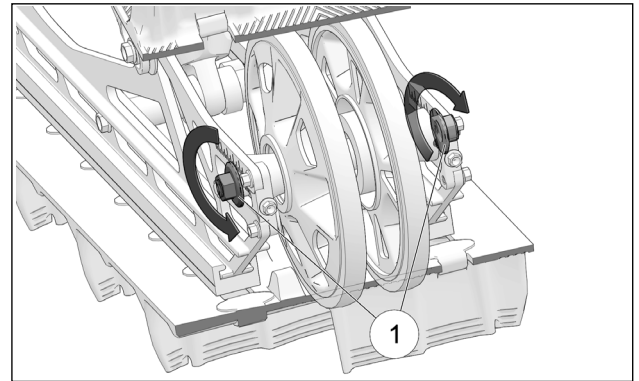

Figure 42
CAUTION: The two rear wheel assembly axle nuts (1) must be loosened before adjusting Track tension. See Figure 42.
- Tighten the two rear wheel axle nuts (1) back to 55 Nm (38 lb-ft) of torque. Figure 42